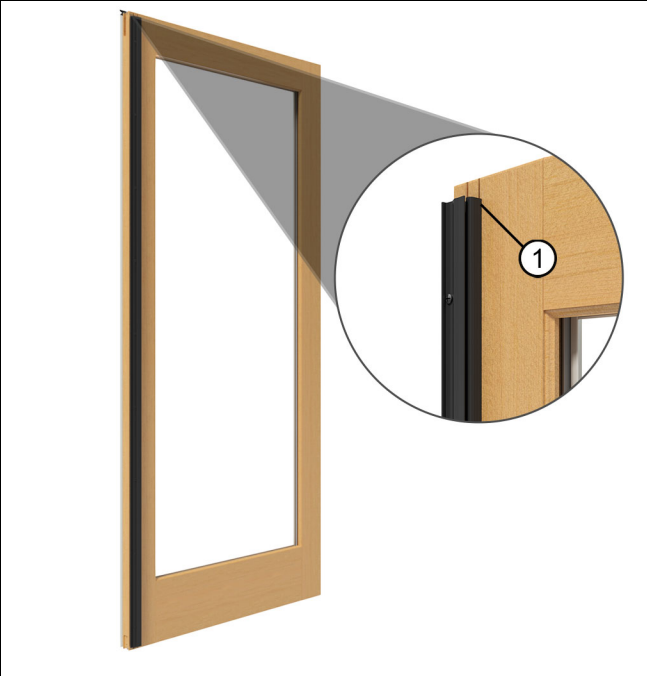
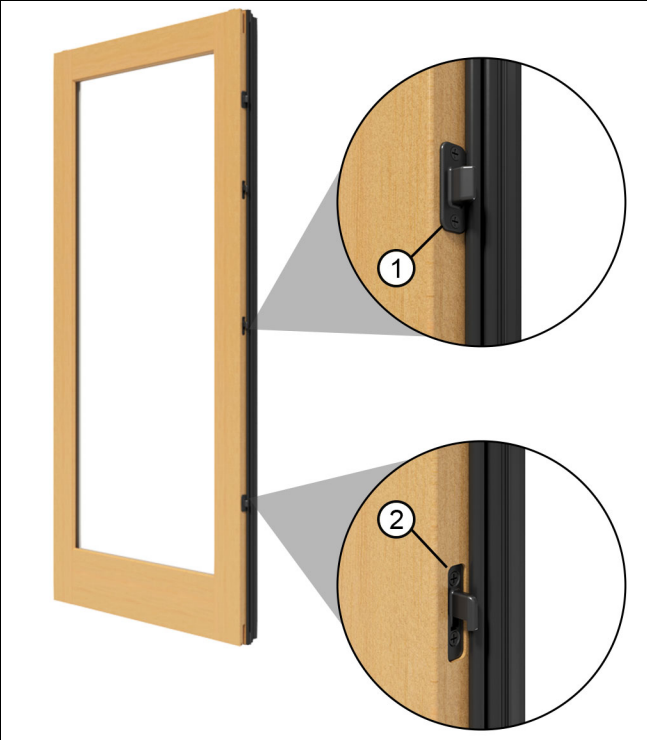

Figure 22 Stationary panel with interlock (exterior plane)
Figure 23 Stationary panel (interior plane)
**NOTE:** You will install the exterior stationary panel first (panel with the interlock) and the interior stationary panel second (with panel alignment bolts and keepers installed). See Figure 22 and Figure 23.